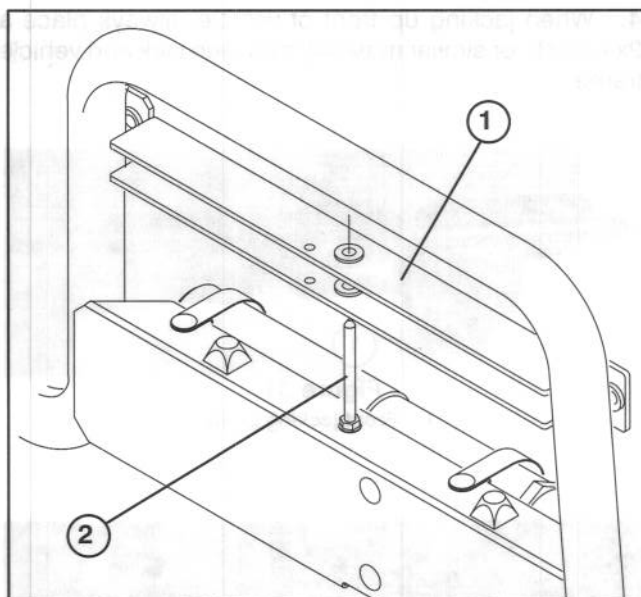

Figure 29
USING BED SAFETY SUPPORT (Fig. 29 & 30)
2. Remove bed support from storage stud on top of back rest support channel on Workman (Fig. 29).